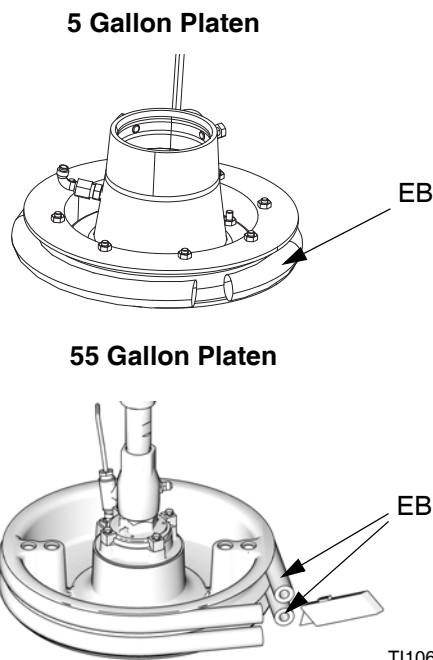

FIG. 39
2. If using an ambient system, turn the Disconnect Switch (AZ) OFF. If using a heated system, turn the Power Junction Box Switch (AK) and the Disconnect Switch (AZ) OFF.
3. To replace worn or damaged Wipers (EB), raise Platen up out of drum. Remove drum from base. Wipe fluid off of Platen.
4. Cut the Wiper(s) (EB) with knife and remove from Platen. See FIG. 39.